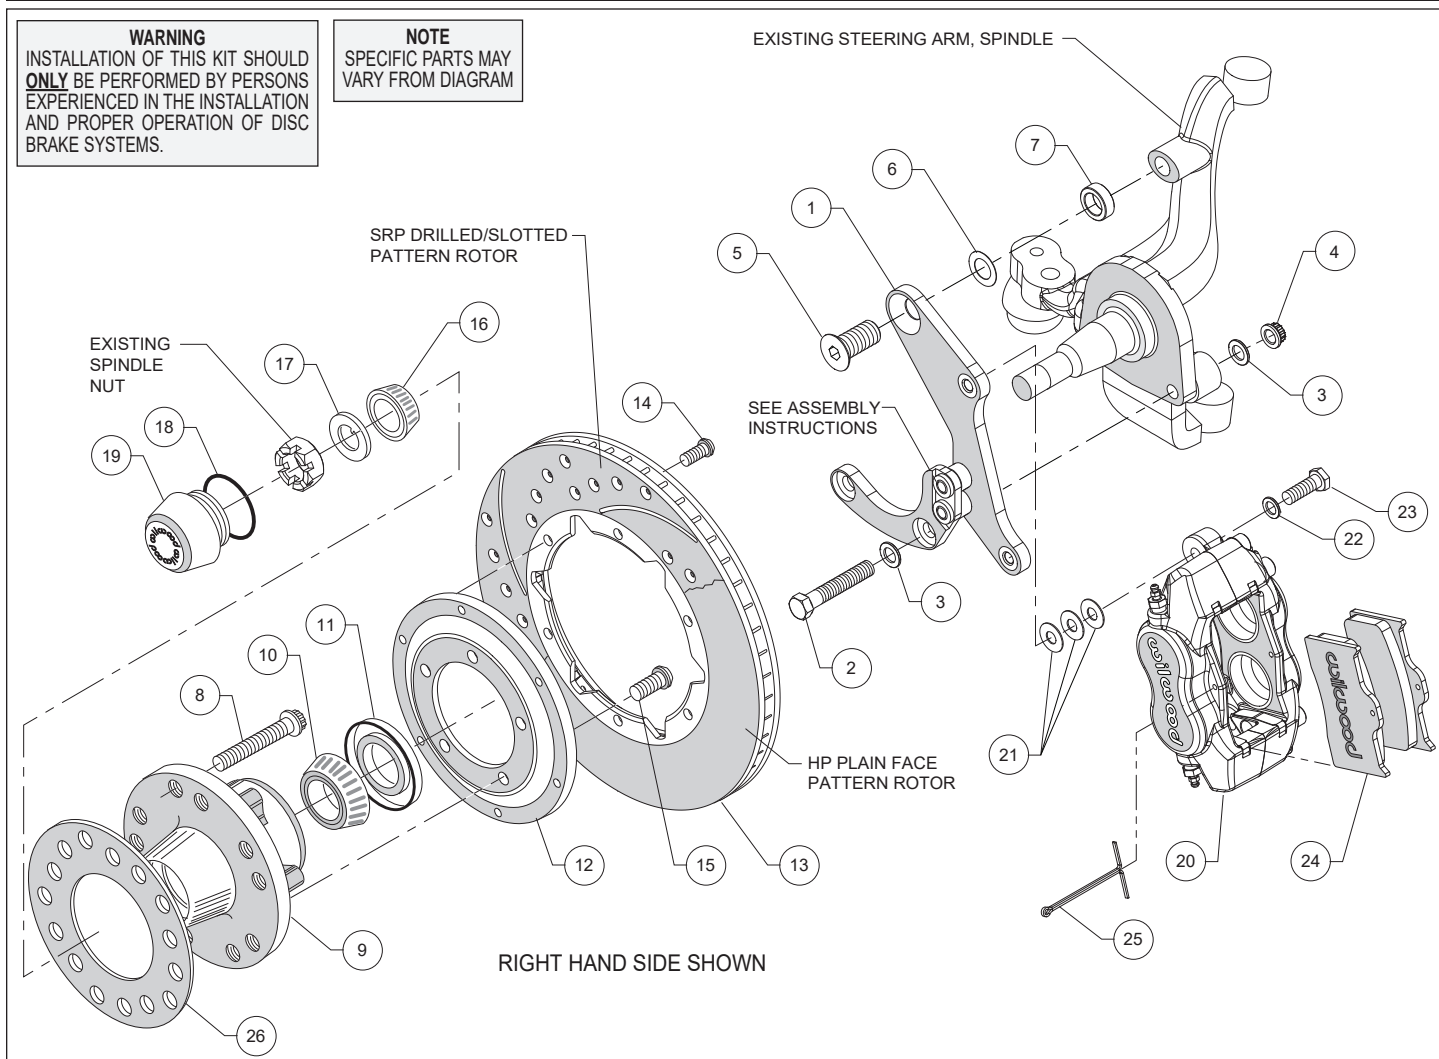
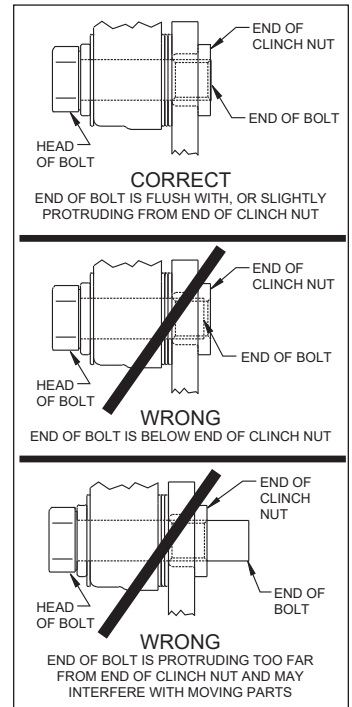

Figure 1. Typical Installation Configuration
Figure 3. Clinch Nut Engagement Diagram
**Assembly Instructions** (numbers in parenthesis refer to the parts list and Figure 1 on the preceding pages): **CAUTION:** All mounting bolts must fully engage clinch nuts. Be sure to check that all bolts are either flush or protruding through flanged side of clinch nut after shimming, Figure 3.
- The caliper mounting bracket (1) has been assembled at the factory for alignment purposes. Loosen the two bolts that secure the brackets together so that the bolts are hand tight only. This will enable the bracket assembly to be adjusted to accommodate various spindle tolerances during assembly. Align bracket with the two lower holes on the spindle face and attach using bolts (2) and washers (3), and secure using nuts (4), as shown in Figure 1 and Photo 1. Install bolt (5) through top of bracket while placing spacer (7) and shim (6) between bracket and spindle, Figure 1. Initially use one .015" thick shim (6) on the top bolt between the bracket and upright. Temporarily tighten the mounting bolts. Ensure that the flanged heads of the clinch nuts in the bracket are facing outboard, Photo 1. **NOTE:** The bracket must fit squarely against the mounting points on the spindle. Inspect for interference from casting irregularities, machining ridges, burrs, etc. Some spindles may require a small amount of grinding to clear the bracket assembly in the area of the bracket-to-bracket spacers.
- Check that the bracket is aligned parallel to the rotor by assembling and installing the hub/rotor per the steps below. If not, adjust by adding or subtracting shims (6) between the spacer (7) and bracket, Figure 1.
- Install wheel studs (8) into the hub (9), Photo 2. Torque to 77 ft-lb. **NOTE:** There are two five lug patterns in the hub (5 x 4.50 and 5 x 4.75). Ensure the correct hub stud pattern is being used to fit the wheel application.
- Pack the large inner bearing cone (10) with high temperature disc brake bearing grease (available from your local auto parts store) and install into the backside of the hub (9), Photo 3.
- Install the grease seal (11) by pressing into the backside of the hub (9), flush with the end of the hub, Photo 3.
- Orient the rotor (13) and the rotor adapter (12) as shown in Figure 1 and Photo 4. Attach the rotor to the adapter using bolts (14). Using an alternating sequence, apply red *Loctite*® 271 to the threads, and torque to 25 ft-lb.
- Mount the adapter/rotor assembly (12/13) to the hub (9) using bolts (15), as shown in Figure 1 and Photo 5. Using an alternating sequence, apply red *Loctite*® 271 to the threads, and torque to 45 ft-lb.
- Pack the small outer bearing cone (16) with high temperature disc brake bearing grease and install into hub (9). Slide the hub/rotor assembly onto the spindle. Secure using spindle washer (17) and OEM spindle nut, Photo 6. Adjust bearings per OEM specifications. Install saved OEM nut lock (if any) and a new cotter pin (not supplied).
- Screw dust cap (19) into hub (9), Photo 7. Friction created by the o-ring (18) on the dust cap keeps it from unscrewing. **NOTE:** The O.D. of the existing OEM spindle washer may be larger than the I.D. of the dust cap not allowing it to seat against the hub face. Therefore, use the spindle washer (17) supplied with the kit instead of the OEM washer.
- NOTE:** Please reference the caution statement at the beginning of the assembly instructions. Mount the caliper (20) onto the caliper mounting bracket (1) using bolts (23) and washers (22), as shown in Figure 1. Initially place three .035" thick shims (21) on each bolt between the caliper and the bracket, Photo 8. Temporarily tighten the mounting bolts and view the rotor (13) through the top opening of the caliper. The rotor should be centered in the caliper, Photo 9. If not, adjust by adding or subtracting shims between the bracket and the caliper. Always use the same amount of shims on each of the two mounting bolts. **NOTE:** The end of each bolt must be flush with or slightly protruding from the head of the clinch nut, as shown in Figure 3. If necessary place spare shims between washer (22) and caliper mounting ear to achieve the proper clinch nut engagement. Once the caliper alignment and clinch nut engagement are correct, remove the bolts one at a time, apply red *Loctite*® 271 to bolt threads, and torque to 40 ft-lb.
- Install the disc brake pads (24) into the caliper, with the friction material facing the rotor (13), and secure in place using cotter pin (25), Photo 10.
- Temporarily install wheel and torque lug nuts to manufacturer's specification. Ensure that the wheel rotates freely without any interference. **NOTE:** Wheel spacer (item 26) MUST be used if any wheel contact surfaces overhang the outside diameter of the hub face. See warning on page 3.